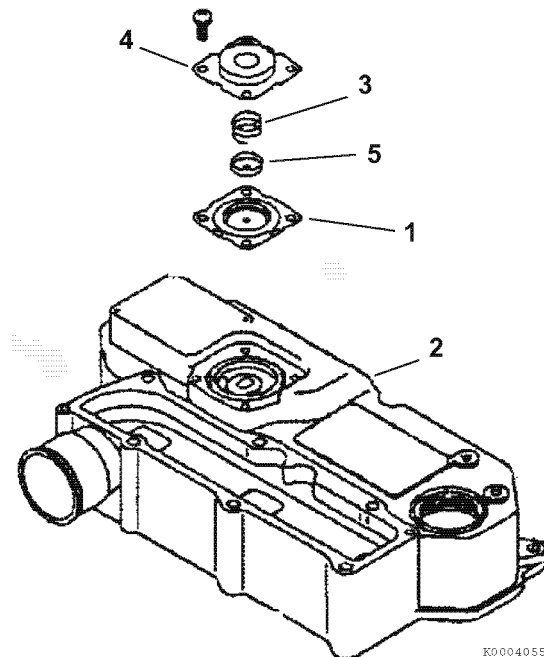

Figure 5-15
The TNV engines use a crankcase breather system that has a spring-backed diaphragm (**Figure 5-15, (1)**) in the valve cover (**Figure 5-15, (2)**). When the crankcase pressure reaches a predetermined value, the diaphragm opens a passage that allows crankcase fumes to be routed to the intake manifold.
To inspect the diaphragm and spring (**Figure 5-15, (3)**):
1. Remove the bolts retaining the diaphragm cover (**Figure 5-15, (4)**).
2. Remove the diaphragm cover, spring, diaphragm plate (**Figure 5-15, (5)**) and diaphragm.